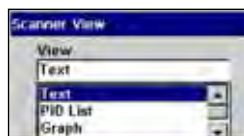

Figure 5-66 Sample Scanner View menu
2. Press **Y/a** to display a drop-down list (Figure 5-66).